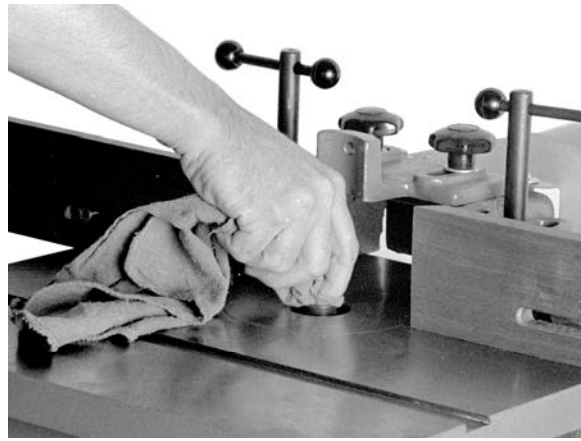

Figure 5
2. To set up the shaper for collet use, remove the arbor and clean the spindle taper (Fig. 5).